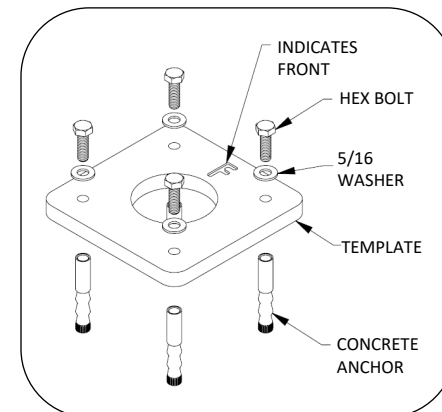

Fig. 4 – Assembly template and anchors
5. Attach anchors to wooden anchor template as shown in Fig. 4.